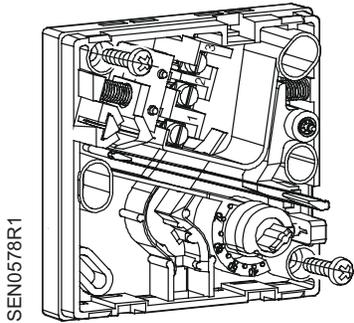

Figure 3.
- Attach the base of the hygrostat to the wall using two 6 × 32 screws. (Screws are not provided.) Place the screws opposite each other in the housing, as appropriate, to achieve a solid mounting. (See Figure 3.)